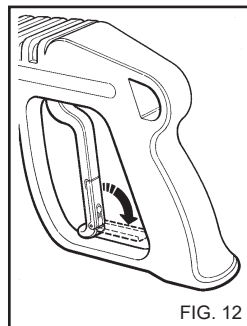

FIG. 12
- When the water cleaner is not used, close the safety device on the handle. (fig. 12)